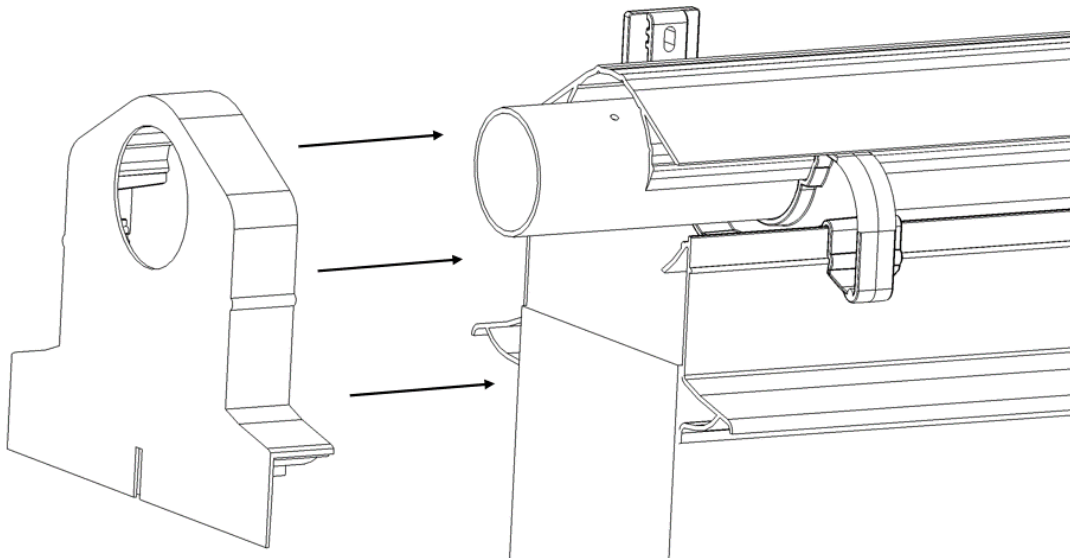

Figure 33
Insert the End Cover for Deflector [*ref. 20*] on both sides of the installation. See Figure 33.
NOTE in Figure 33 is shown the 150mm (6inch) configuration. For the 100mm (4inch) configuration be aware of wall side indication.